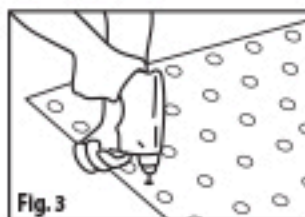
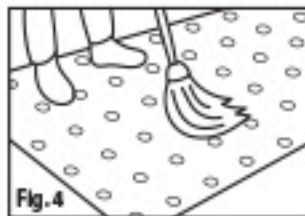

Fig. 3
Fig. 4
5. Place panel in marked installation area. Make necessary adjustment prior to fastening. Standing on the panel using a hammer drill with a 5/16" carbide tipped bit, drill a hole a minimum of 2" deep. (Figure 3) Clean drilling debris from holes. (Figure 4)